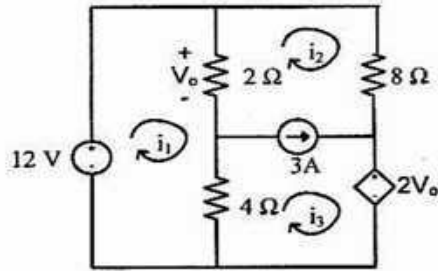

Fig. 3(b)
- (b) Using Mesh Circuit analysis find  $i_1$ ,  $i_2$  and  $i_3$  in the circuit shown in Fig.3(b) [18]